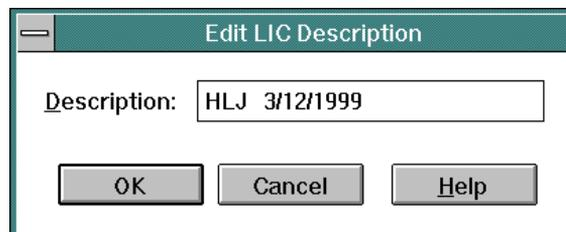

Figure 166. Edit LIC Description Dialog Box
8. When the installation is complete, the *Edit LIC Description* dialog box appears (Figure 166). Remove the diskette and store all LIC installation diskettes in a secure location.